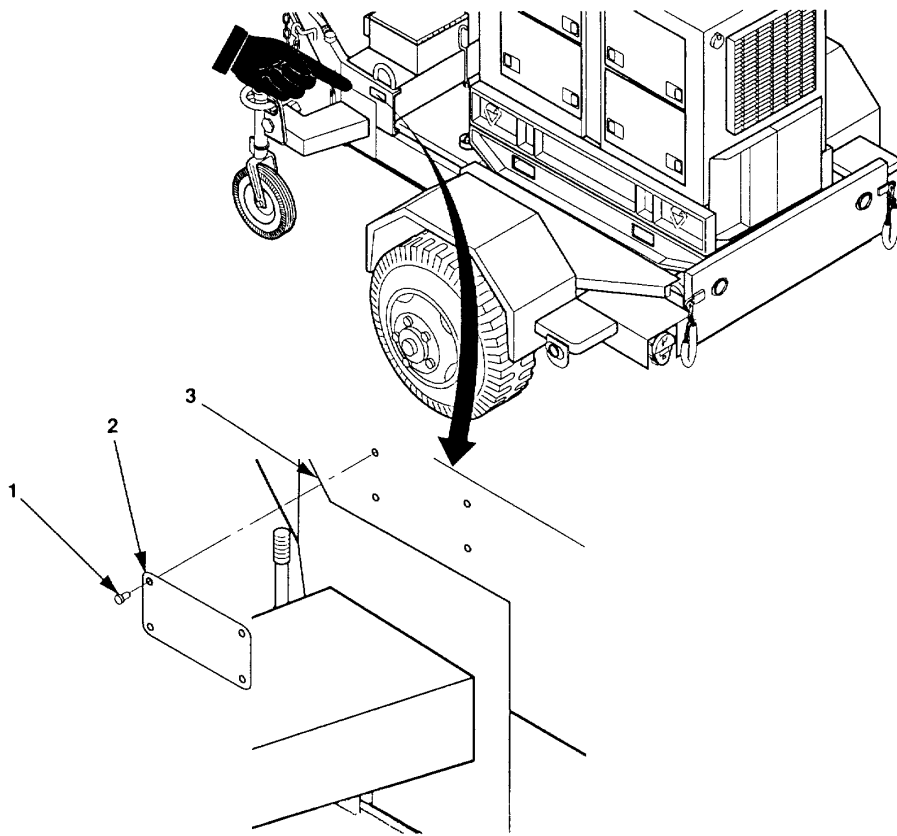

Figure 4-23.1. Data Plate Replacement.
- (2) Refer to figure 4-23.1 and remove four drive screws (1) and data plate (2) from trailer (3).